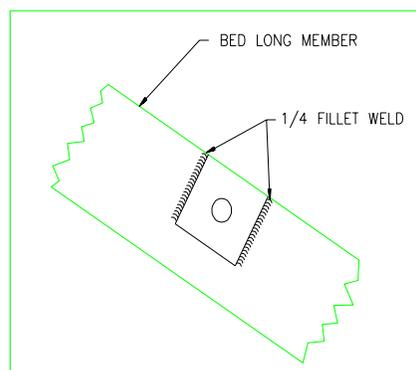

Figure 18: Top Pin Plate Assembly
2. Weld the Top Pin Plate Assembly to the box long member (see Figure 18). Remove the weld splatter from the pin.